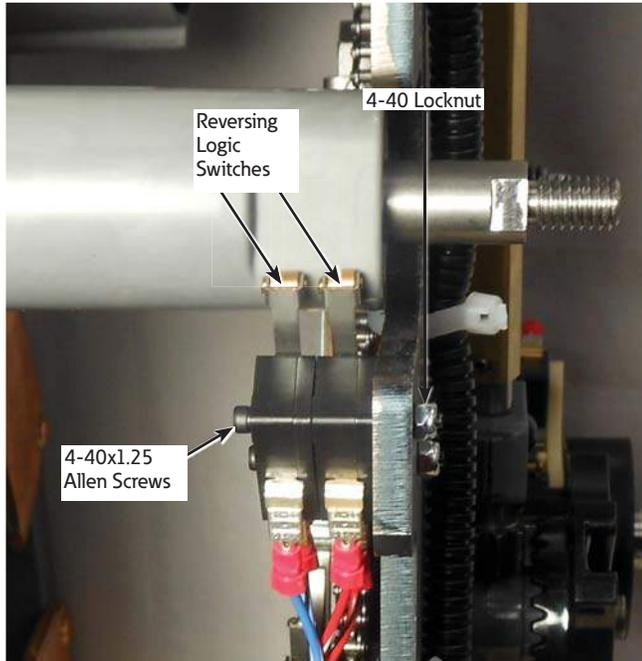

**Figure 43. Reinstalling neutral stationary and hardware**
21. Place a Belleville washer and nut over each of the reversing neutral stationary contact studs. The cupped side of the washer must face in toward the contact board. Tighten to a torque of 180–192 in-lbs (20.3–21.7 Nm). See Figure 43.